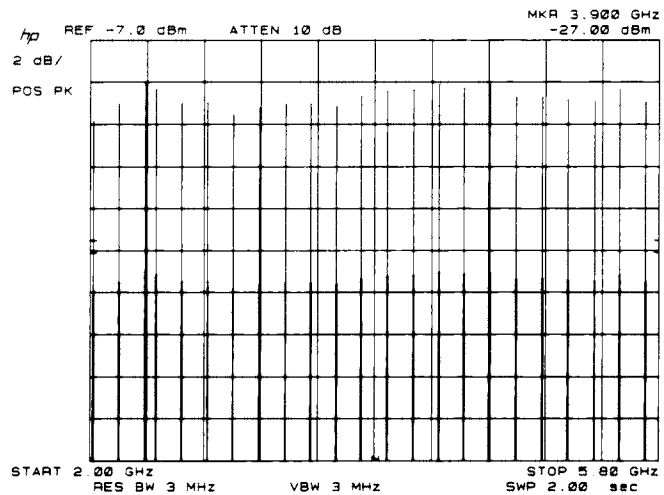

Figure 3-95.
71. On the spectrum analyzer, key in TRACE A **(CLEAR-WRITE)**, **(SWEEP TIME)** 2s, MARKER **(OFF)**, **(HOLD)**. As the spectrum analyzer completes each sweep, a series of approximately 22 new responses should be displayed, as shown in Figure 3-95. The peaks of these responses coarsely outline the spectrum analyzer frequency response.